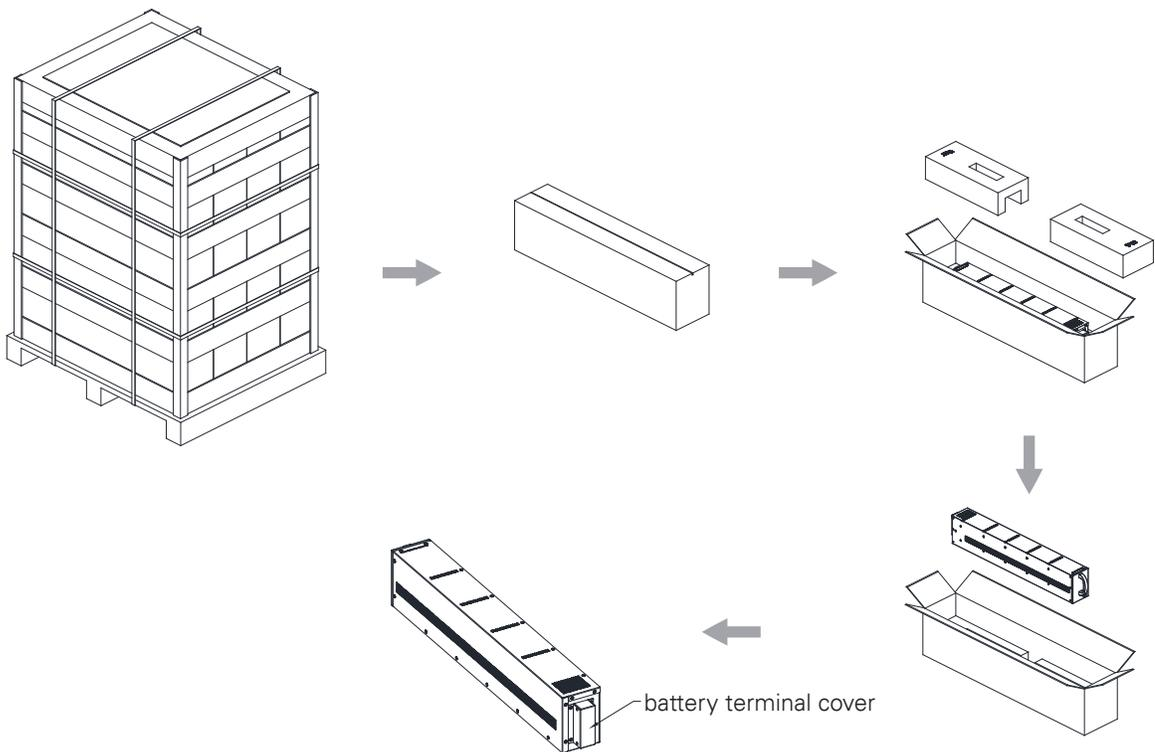

Figure 3-8: Instruction for Removing the Battery Module Packaging
1. Cut off the packing strap and open the carton (see Figure 3-8);
2. Lift the foam on the Battery module upward to remove them (see Figure 3-8);
3. Take out the Battery module (see Figure 3-8).